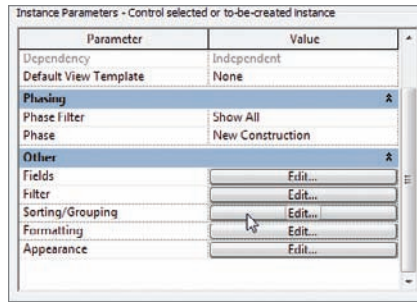

FIGURE 11.6 Click the Edit button in the Sorting/Grouping row.
3. In the Properties dialog, you will see a category called Other. Click the Edit button in the Sorting/Grouping row, as shown in Figure 11.6.